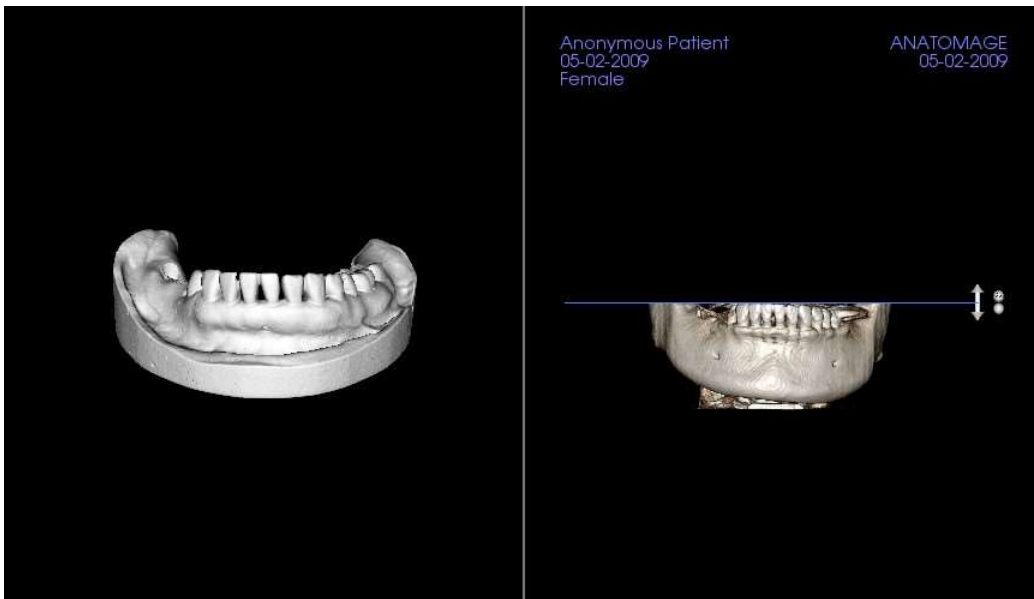

Figure 1
- **Register to CT:** This will initiate the first step in registering the STL file to the DCM. The dialog (right, lower) shows the three steps needed to complete the registration. The layout (Figure 1) shows the STL on the left of the rendering window and the DCM on the right with the adjacent clipping tool. Click Help to read the embedded document describing how to register different cases.